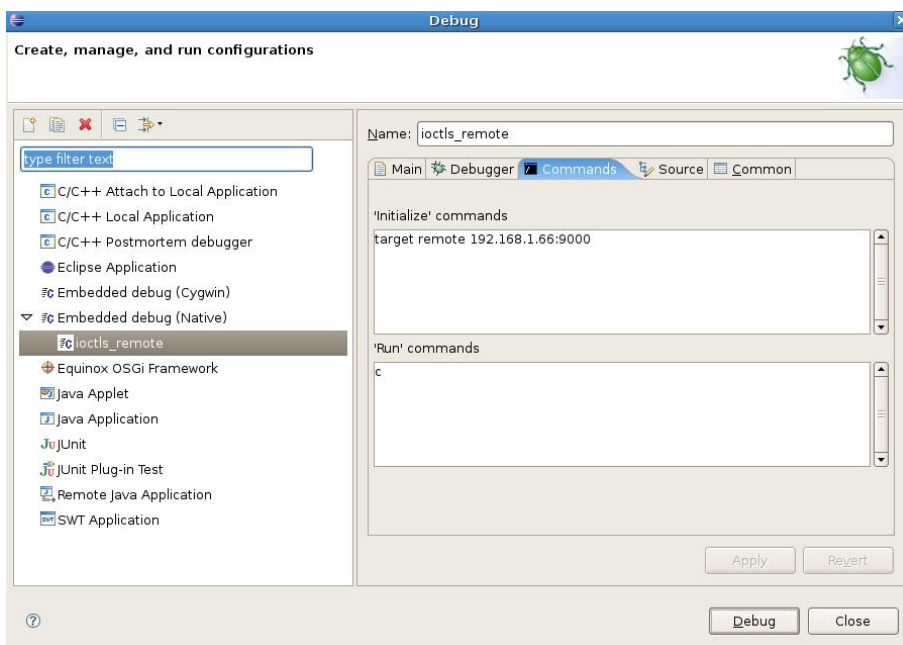

Figure 40: Eclipse debug: Commands tab
- choose Commands tab (see Figure 40)